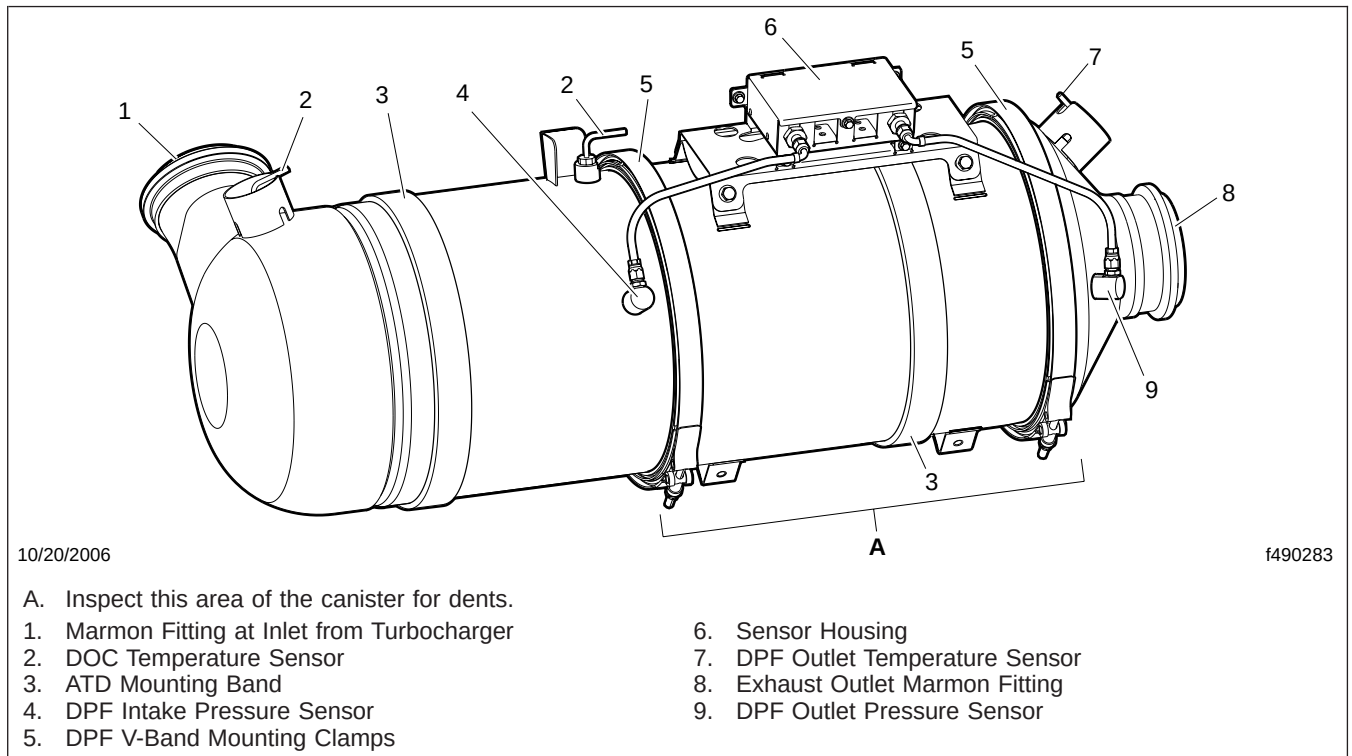

Fig. 5, Typical After-Treatment Device
IMPORTANT: The Environmental Protection Agency's 2007 regulations require lower exhaust emissions, thus requiring new exhaust system components. See **Fig. 5**. In particular the after-treatment device (ATD), which is part of the after-treatment system (ATS), requires special attention during regularly scheduled maintenance inspections. If any discrepancies are discovered, refer to the engine manufacturer's service literature for repair instructions.
7. Check the DPF exterior surface for dents or other damage. See Item A of **Fig. 5**. A dent over 3 inches (76 mm) in diameter and 1/4-inch (6-mm) deep could cause internal damage to the DPF, causing it to malfunction.